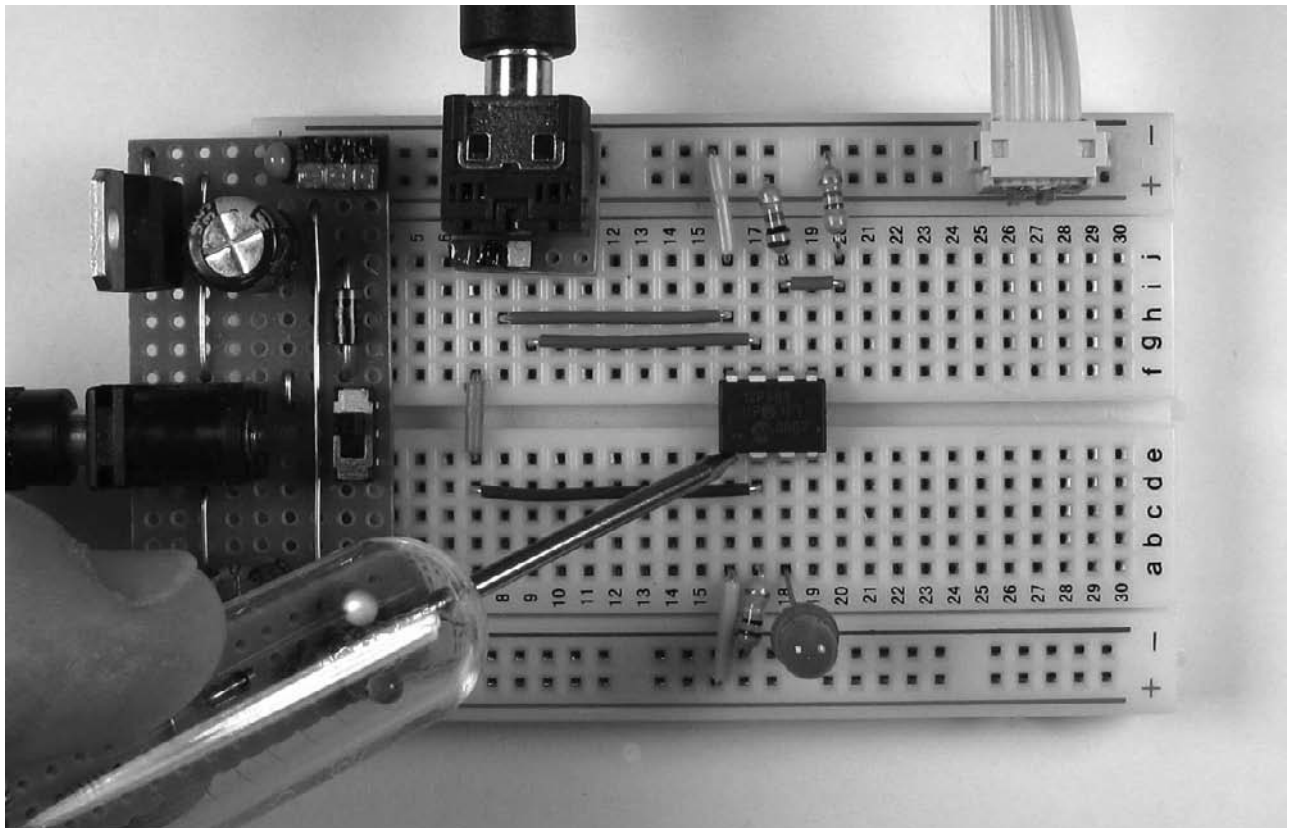

Figure 6-10 Testing a circuit with the completed logic probe
9. Figure 6-10 shows the completed probe being used to test a circuit. I happen to be left-handed (as you can see in the photo), which is why I positioned the red and green LEDs as I did—it just makes more sense to me that the *high* LED is above the *low* LED. If you're right-handed and that sort of thing matters to you, you may want to reverse the position of the two LEDs before soldering them in place. (If so, you will also need to reverse constant declarations in the program.) Before soldering each LED in place, bend and snip each